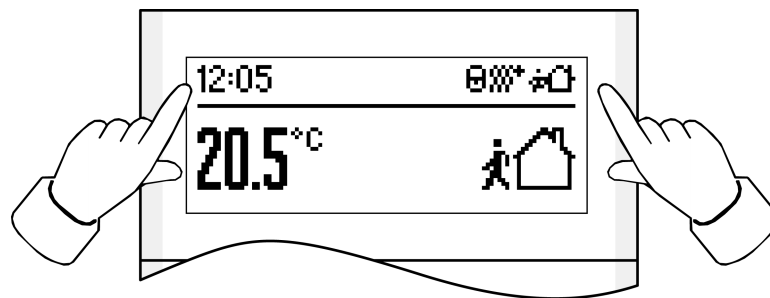

Figure 2
- Press both buttons next to the display simultaneously (see figure 2).